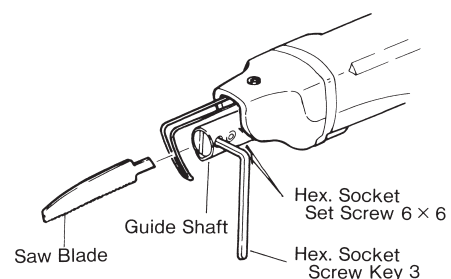

Fig.2
**4-1. Mounting Saw Blade (Fig.2)**